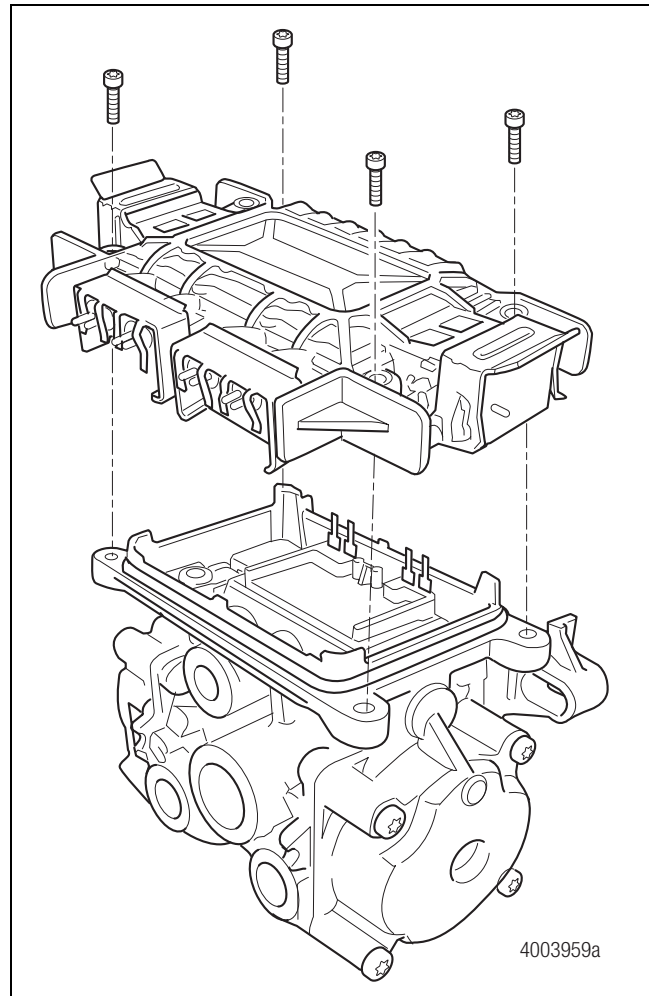

Figure 1
2. Use a Torx T30 bit to loosen and remove the four screws. Figure 1.